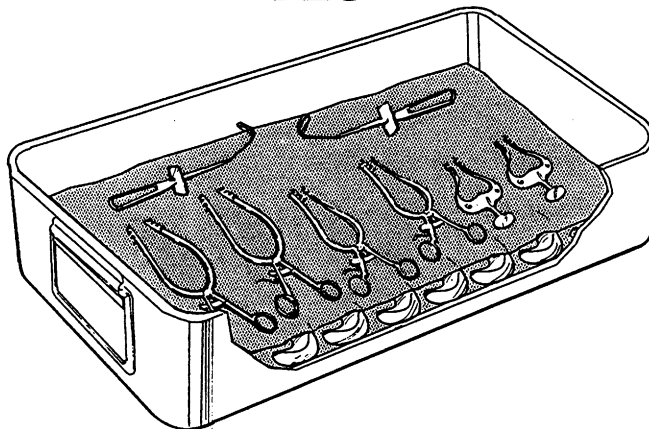

Figure 6.
- c. In some instances, an absorbent surgical towel may be used to separate layers of instruments within the tray (heavy instruments on the bottom, lighter ones on the top). The addition of absorbent material should not be considered a substitute for removing some instruments from a heavy or over-full tray. The additional towels may absorb so much condensate that they cannot dry (Figure 6).